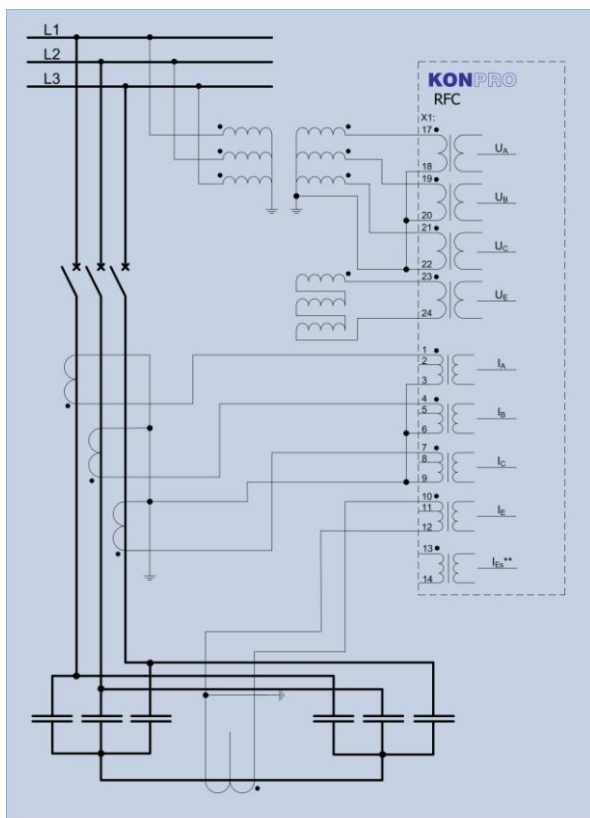

Fig. 4: Relay connection schematic RFC with ground voltage transformer
- While setting voltage protection for pickup value it is possible to choose the effect on size of linear voltage, and direct or inverse voltage component. Common relay connection options are shown on fig. 4 and 5.